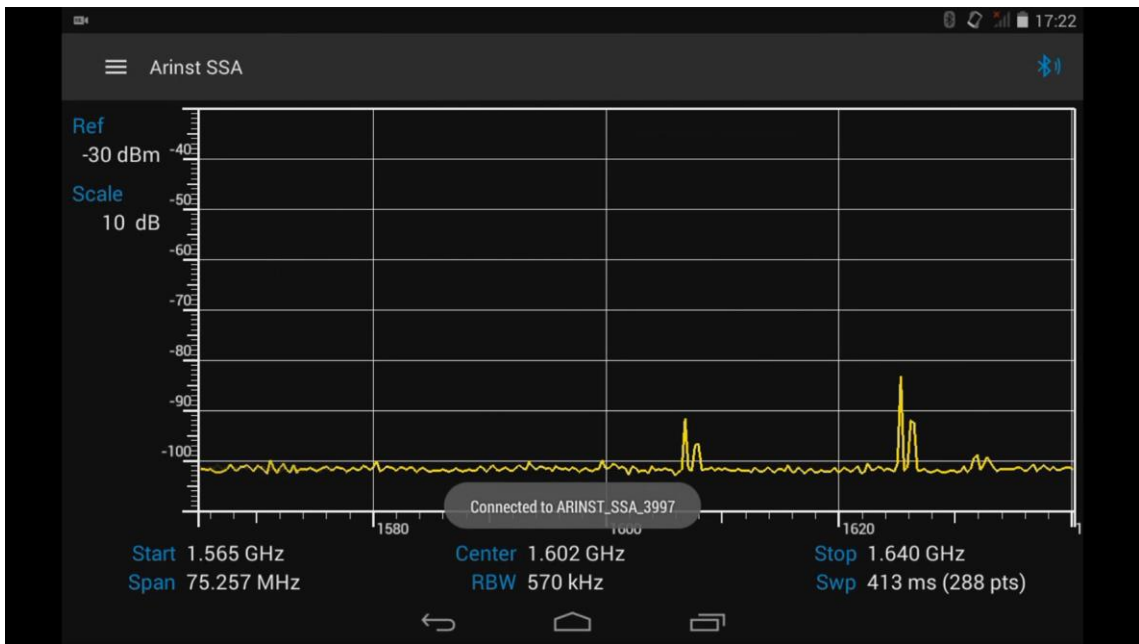

Figure 28 – Message about connecting the device to the tablet / smartphone
8.2.6. The device will connect to the tablet / smartphone, a graph of the signal spectrum and an information message about the connection to the device **Connected to ARINST_SSA**, as in figure 28, will appear on the screen.